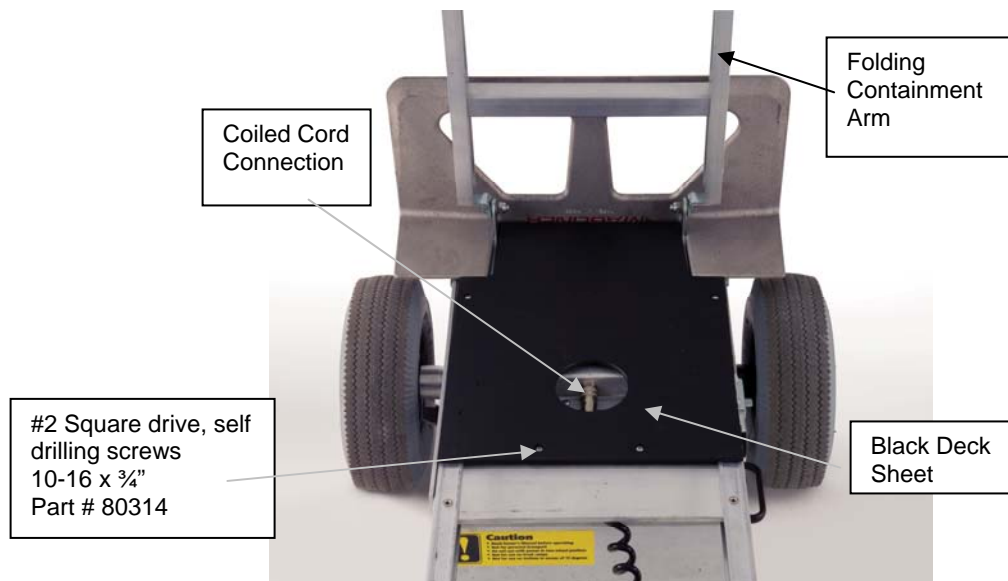

Fig. 7c
- 1) To remove the transaxle housing assembly (motor, gearing, driveshaft, (Part # 63001), the Magliner Powered Gemini must first be in the four-wheel position (Fig. 7c).
- 2) With the unit in the 4-wheel position as in Fig. 7c, remove the following (see also 7.2.1-7.2.5):